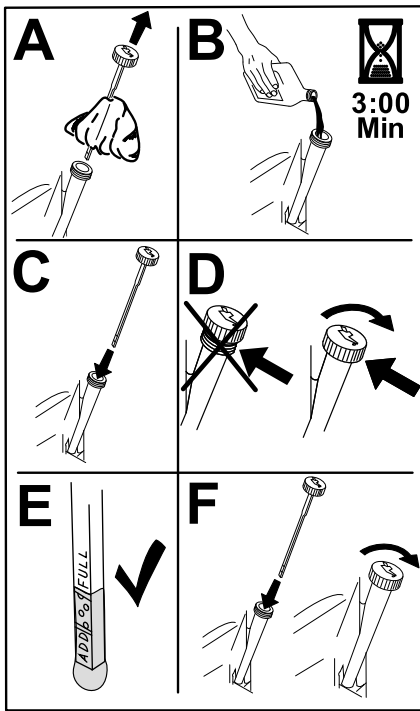

Figure 41
5. Slowly pour approximately 80% of the specified oil into the filler tube and slowly add the additional oil to bring it to the Full mark (Figure 41).